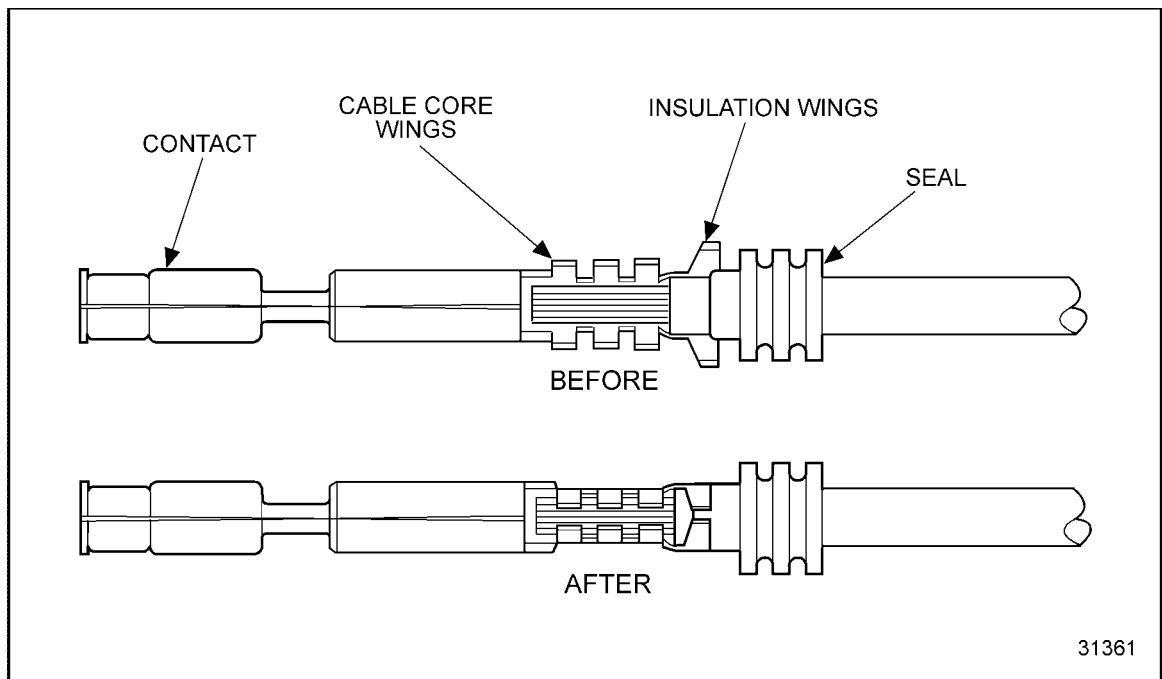
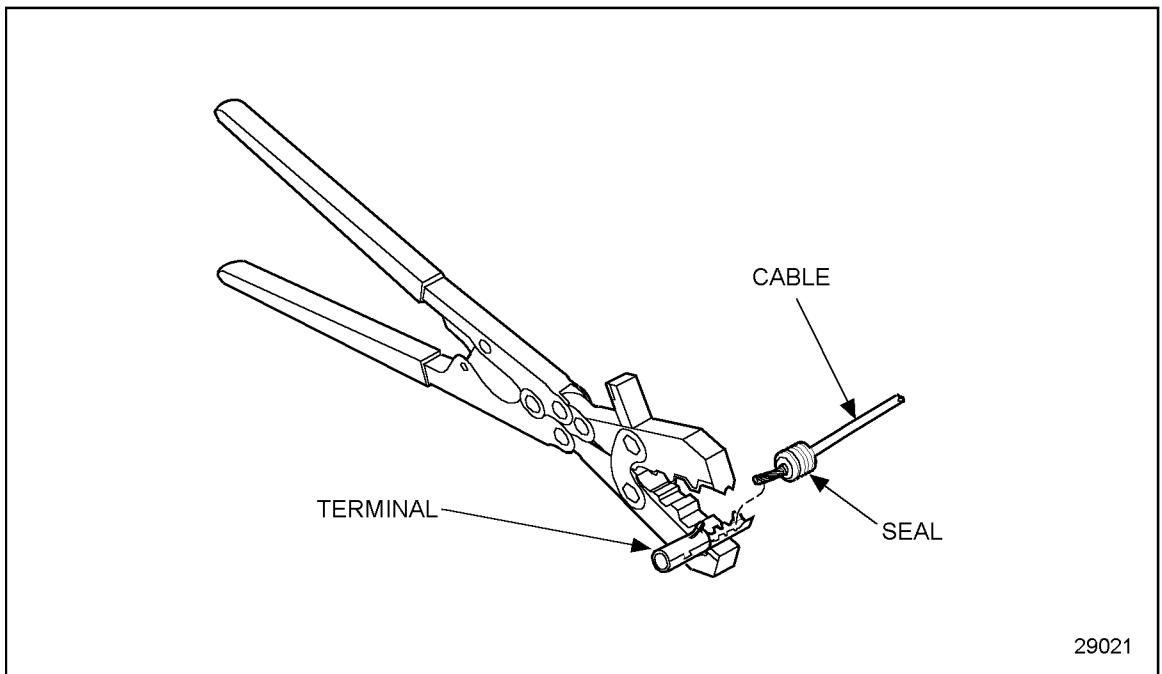

Figure 3-40 Terminal Installation (Shown with a Seal)
Figure 3-41 Terminal Position (Shown With a Seal)
2. Remove the insulation from the end of the cable with J 35615 (or equivalent), exposing 5.0 0.5 mm (0.2 .02 in.) conductor (wire), a sufficient amount of wire to be crimped by the terminal core wings (see Figure 3-40).
3. Insert the terminal into the locating hole of the crimping tool using the proper hole according to the gage and function of the cable to be used. See Figure 3-41.
4. Insert the cable in the terminal so the stripped portion is positioned in the cable core wings and the insulated portion of the cable is in the insulation wings (see Figure 3-41). Position the seal on the cable so the insulation wings grip the seal (see Figure 3-40).